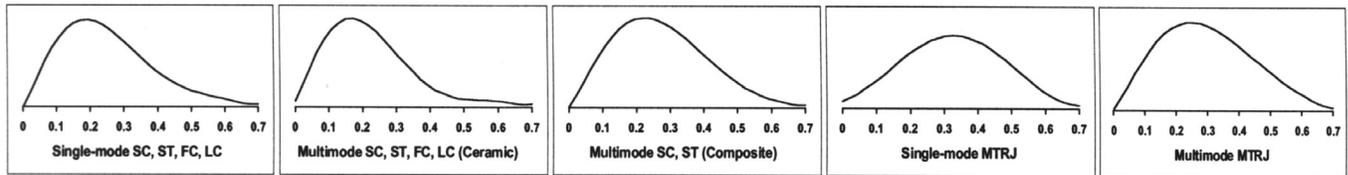

Figure 6-12
**6.4-2** UniCam connectors are 100% factory tested for performance. Properly installed, UniCam connectors will consistently exceed TIA/EIA requirements for insertion loss of less than 0.75dB. Figure 6-12 shows typical insertion losses for common UniCam connectors installed with an FBC-012 cleaver, and following this procedure.